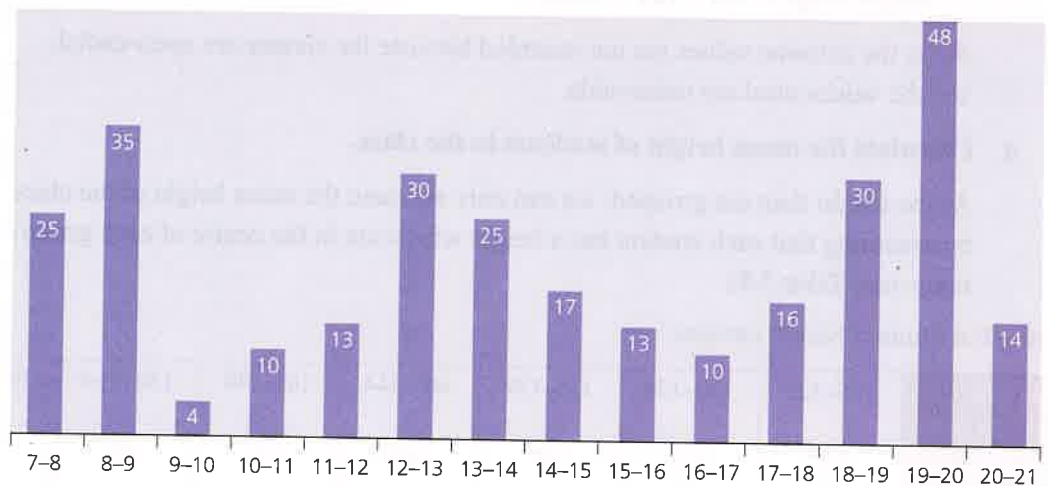

Figure 5.21 Gym usage through the day
- 4 Figure 5.21 shows the number of people using a gym in hourly slots throughout a day.